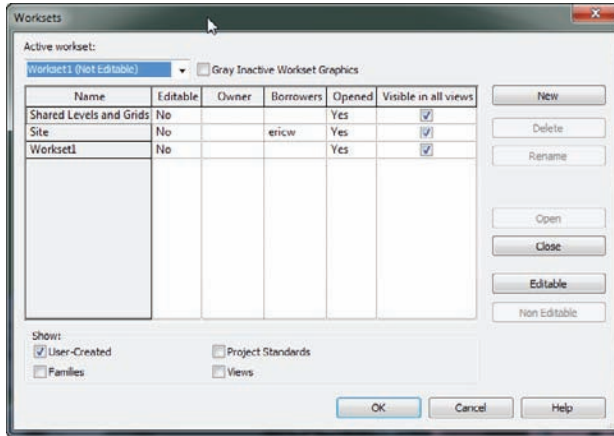

FIGURE 22.12 Borrowing a workset
4. In the Worksets dialog, notice that you're now borrowing the Site workset, as shown in Figure 22.12. Click OK.